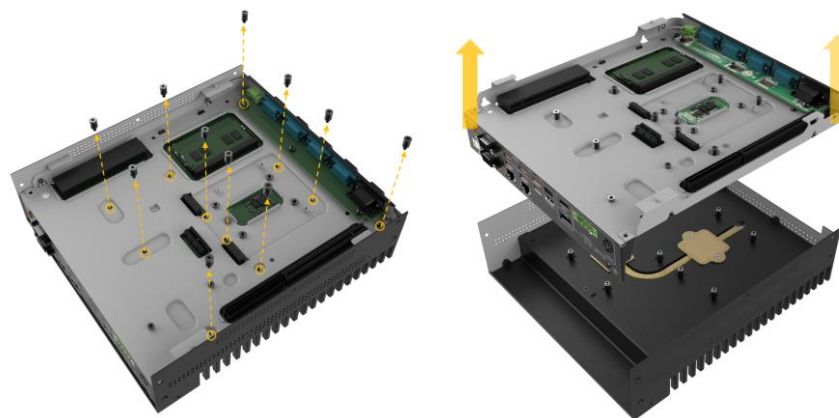

Figure 3-2: Motherboard Removal
Step 1: Remove the 11 spring screws on the motherboard, and then take out the motherboard (including the motherboard holder) (Figure 3-2).